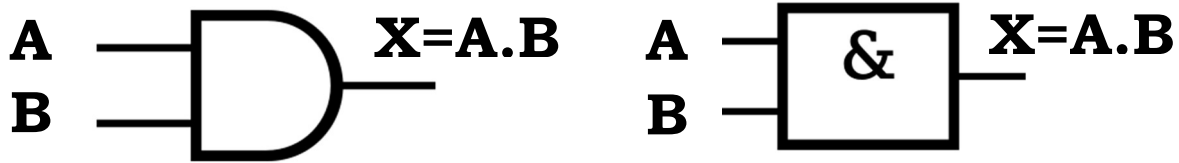

Fig 1.3: (a) Distinctive symbol of 2-input AND gate; (b) Standard 2-input AND gate symbol
The AND gate is an electronic circuit that gives a high output (1) if all its inputs are high (1). When any one of its input is low (0), the output is low (0). The AND gates are composed of two or more inputs and a single output, as indicated by logic symbols in Fig 1.3 (a & b):